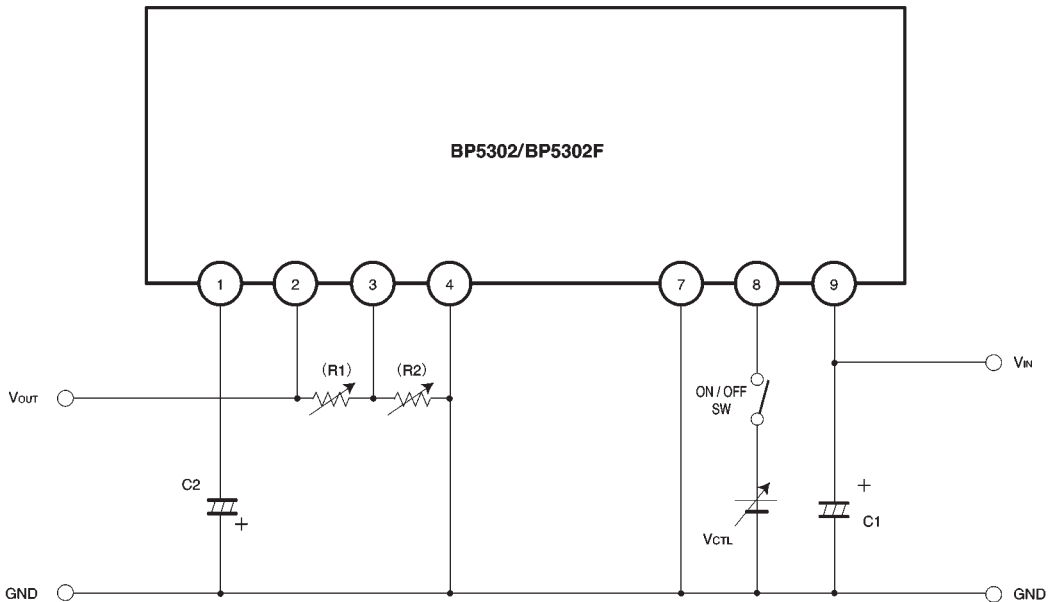

Fig. 1
- Electrical characteristics (unless otherwise noted, $T_a = 25^\circ\text{C}$ and R1 and R2 resistors in the measurement circuit of Fig. 1 are disconnected)